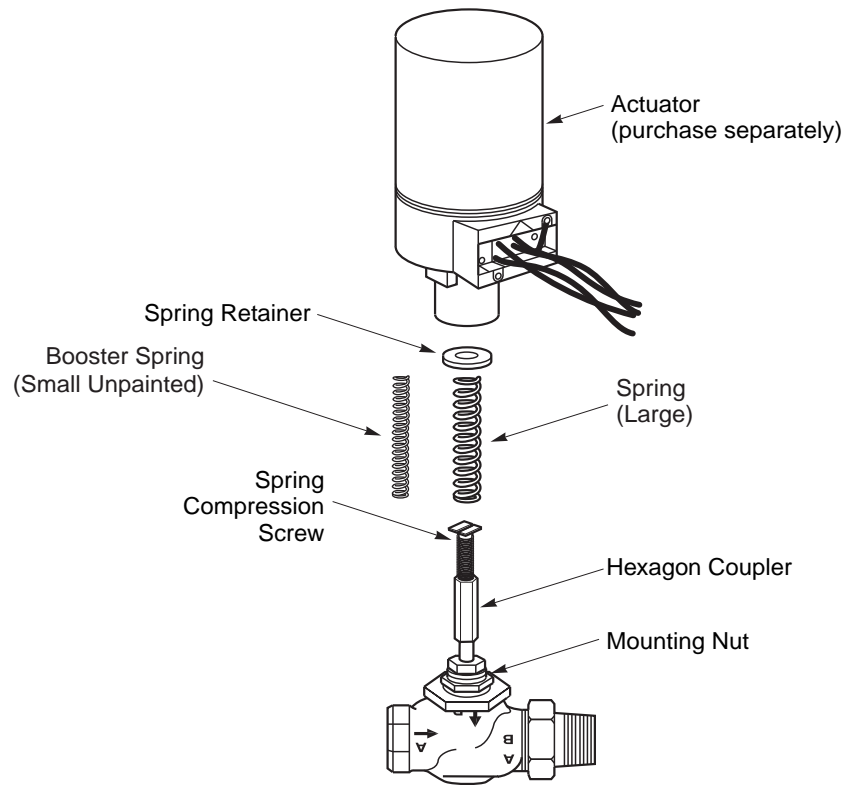

Figure-3 Assembly of Linkage Kit onto VB-7xxx Series Valve.
10. Center the spring on top and bottom to assure smooth actuator operation. See Figure-3 for total assembly components required.